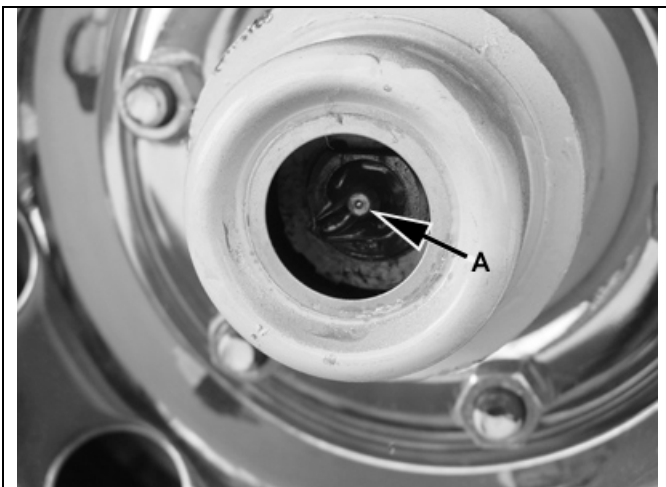

Figure 9-2 – Lubricate Wheel Bearings
- Place a standard grease gun onto the grease fitting (A). See figure 9-2. Make sure the grease gun nozzle is fully seated on the fitting.